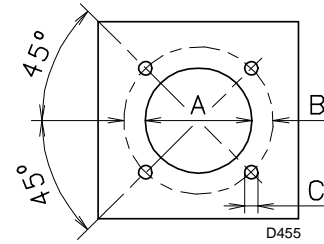

Fig. 11
Drill the combustion chamber locking plate as shown in Fig. 11.
- Place entire burner on the boiler hole arranged previously, see Fig. 11, and fasten with the screws given as standard equipment.